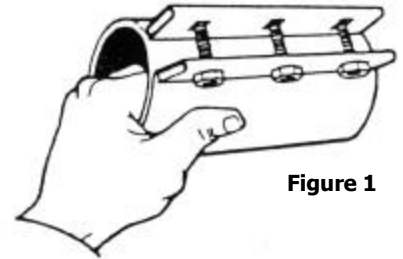

Figure 1
- To avoid slippage of the gasket, sleeve and gasket protector (when used), always hold coupling as shown in Figure 1.